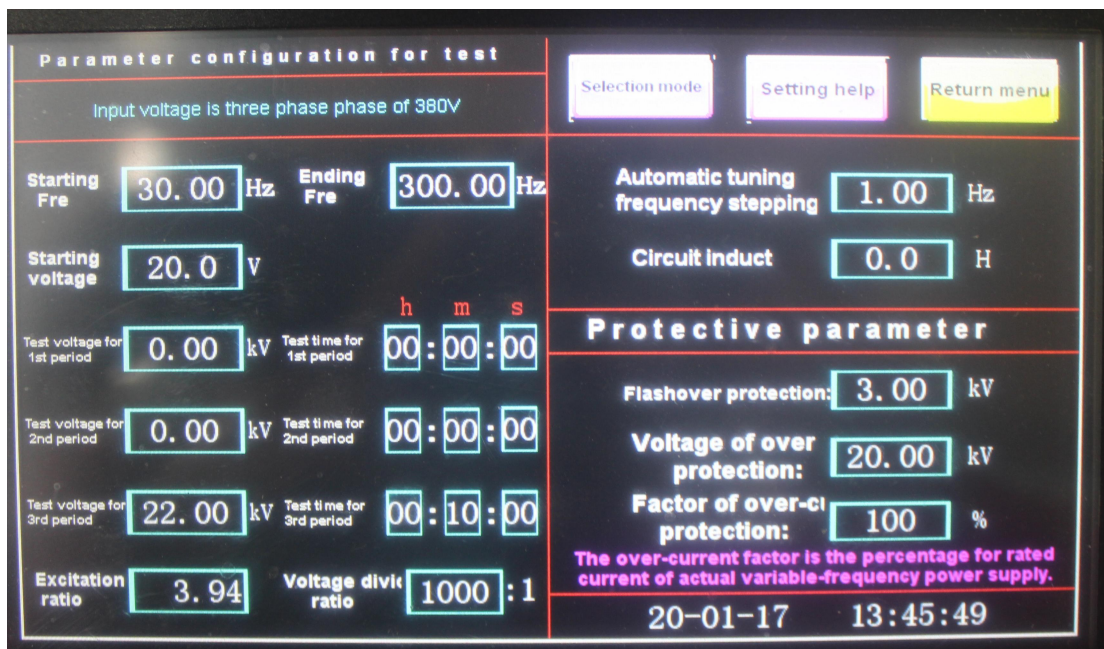

Figure 3
4.2.2 Configuration of test parameters: Various parameters of current test must be set correctly before each test! The liquid crystal display interface after clicking “Parameter configuration” is shown in Figure 3